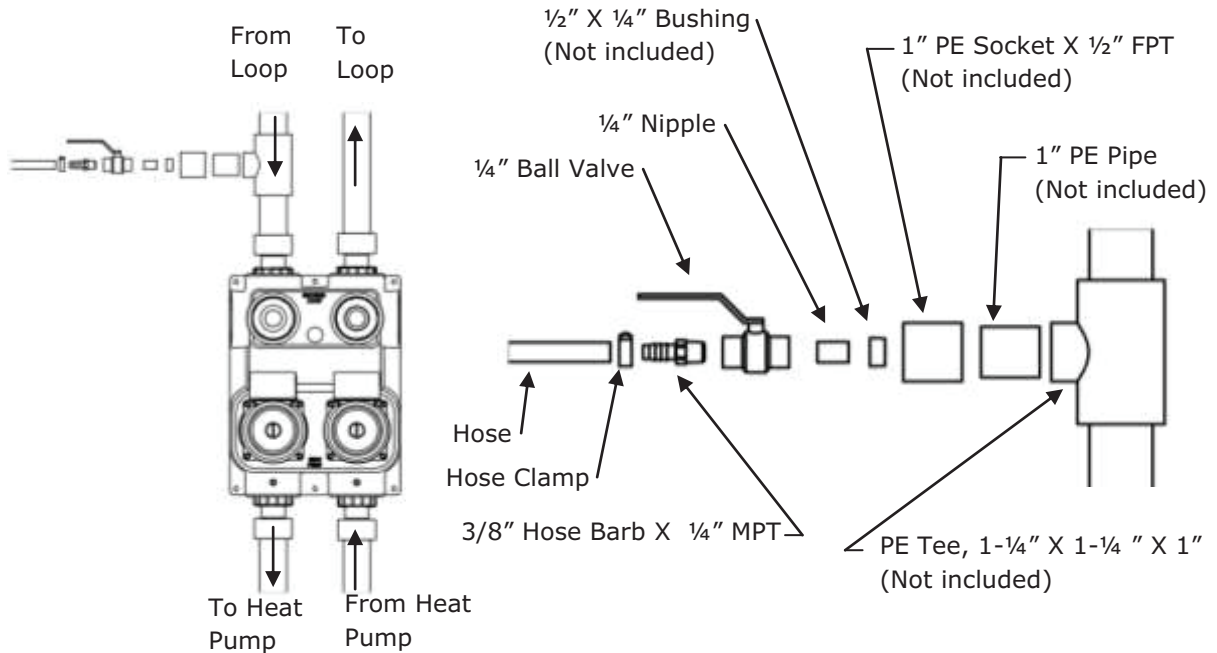

Figure 2: Geo-Booster installation with plumbing point above flow center
3. Plumb the other end of the hose into the ground loop piping system on the return pipe before the flow center or circulator. The included ball valve should be installed at the desired plumbing point to allow isolation of the Geo-Booster. See Figure 2 for one plumbing method.